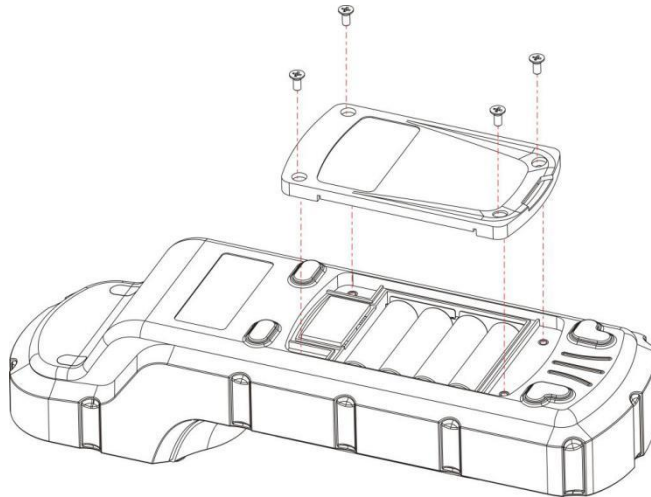

Figure 3 Replace Batteries
The SP-910 battery compartment, shown in Figure 3, is on the back side of the instrument. Insert a small pad underneath the screen area to make the back surface level when the instrument is turned upside down. Install batteries as followings:
2. Insert four batteries into the battery holder as shown in Figure 3. Make sure the positive battery polarity marker (+) is aligned with the positive marker (+) on the battery holder.